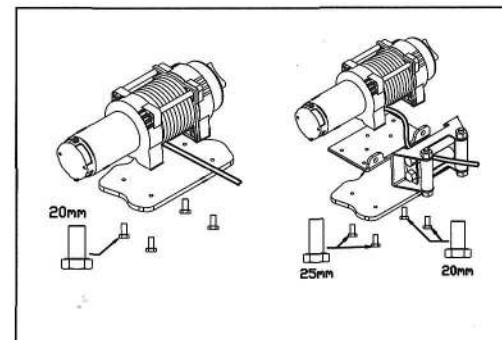

Figure 4: Orientation of winch to, mounting plate and bolt lengths.
**Note:** When using separate winch mount and fairlead plates use hex head capscrews on the motor side of the base as shown in Figure 4.